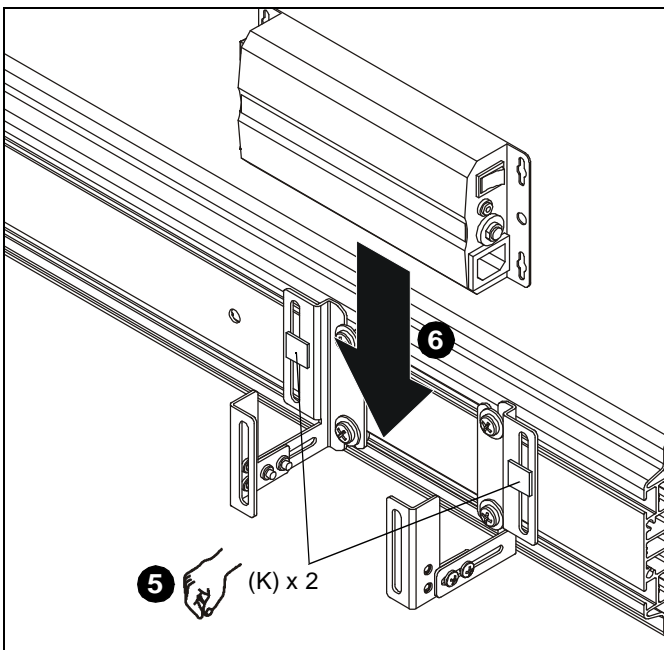

Figure 5
3. Put hook and loop squares (K) together to form two squares.
5. Attach hook and loop squares to brackets. (See Figure 5)
6. Remove paper from hook and loop squares and place component on brackets, pressing it against hook and loop squares. (See Figure 5)